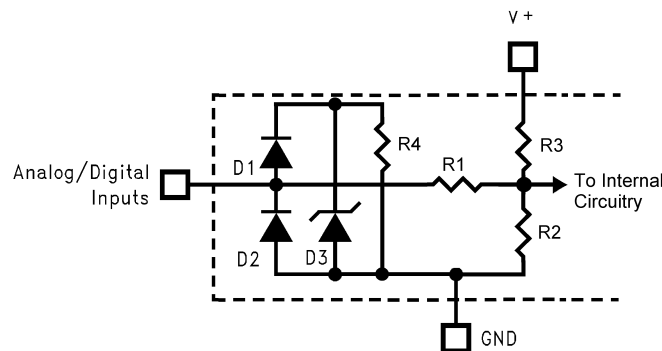

Figure 2. ESD Protection Input Structure
- (1) Parasitics and or ESD protection circuitry are shown in Figure 2 for the LM87's pins. The nominal breakdown voltage of the zener D3 is 6.5 V. Care should be taken not to forward bias the parasitic diode, D1, present on pins: A0/NTEST_OUT, A1 and DACOut/NTEST_IN. Doing so by more than 50 mV may corrupt a temperature or voltage measurement.
- (2) Typicals are at $T_J = T_A = 25^\circ C$ and represent most likely parametric norm.
- (3) Limits are specified to TI's AOQL (Average Outgoing Quality Level).
- (4) The Temperature Error specification does not include an additional error of $\pm 1^\circ C$, caused by the quantization error.
- (5) The Temperature Error will vary less than $\pm 1^\circ C$ over the operating V_{CC} range of 2.8V to 3.8V.
- (6) TUE (Total Unadjusted Error) includes Offset, Gain and Linearity errors of the ADC.
- (7) Total Monitoring Cycle Time includes all diode checks, temperature conversions and analog input voltage conversions. Fan tachometer readings are determined separately and do not affect the completion of the monitoring cycle.
- (8) This is the lowest DAC code specified to give a non-zero DAC output.